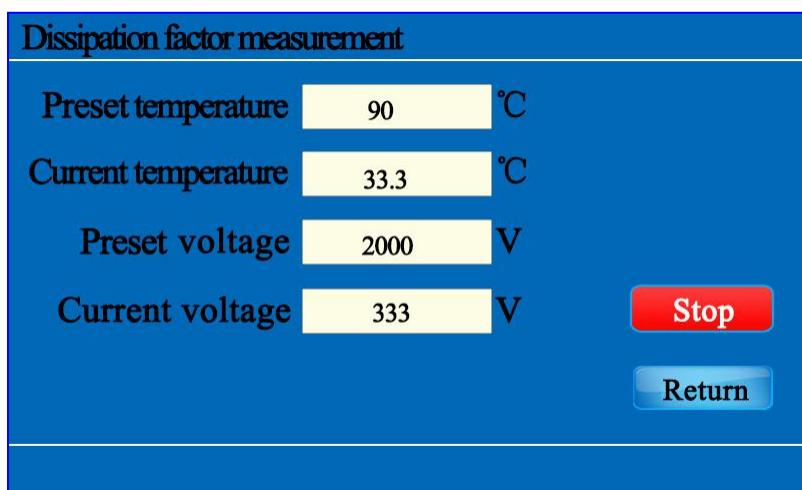

Fig.9-1
① Dielectric loss factor dielectric constant screen is shown in figure 9-1: